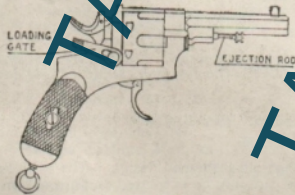

FIG. 1.—10.35 MM. REVOLVER 89
2. 10-35 mm. Revolver, Mod. 89--Bodeo. (See Fig. 1)